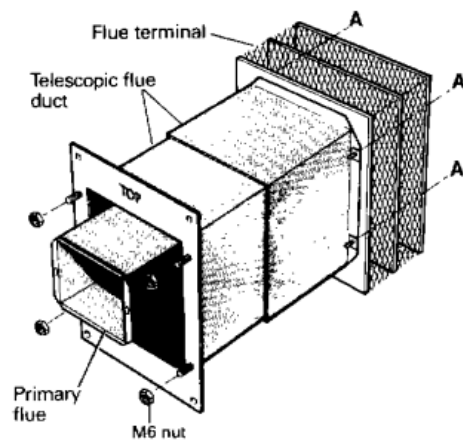

Fig. 7
2.3 Unpack the flue terminal - see Fig. 7.
2. Remove the primary flue, See Fig. 7, from inside the telescopic flue duct. Retain this for fitting to the boiler in Section 2.5.
3. Unscrew the four screws, 'A' in Fig. 7, (do not remove the screws) securing the flue terminal to the flue duct and remove the terminal.